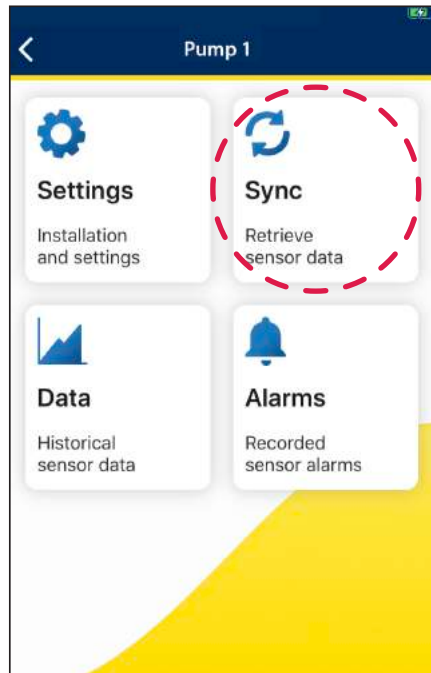

Figure 20
2. Select **Sync** (see figure 20).